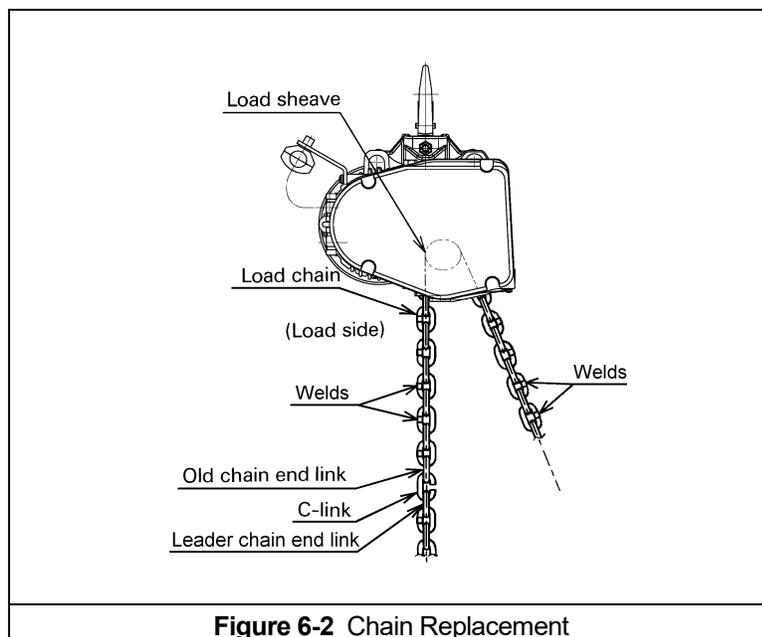

Figure 6-2 Chain Replacement
- 6.3.3 **OIL LEVEL** – Check the oil level by removing the oil plug as shown in **Figure 6-2**. Insert a dip stick to check the oil from the oil check hole. Reference **Figure 6-3** and **Table 6-6** for check distances between the hole and the oil level.
- To drain the current oil from the hoist, remove “Oil Plug” on top of the hoist and the “Oil Drain plug” on the bottom of the hoist. Allow the old oil to drain completely. Refer to **Figure 6-2** for oil plug locations.
- 4) Using a C-link, attach the new chain to the end link of the old chain on the no-load side. The end link of the new load chain should be connected so that the welded portions of the load chain's standing links are oriented to the outside as they pass over the sheave. Refer to **Figure 6-2**.